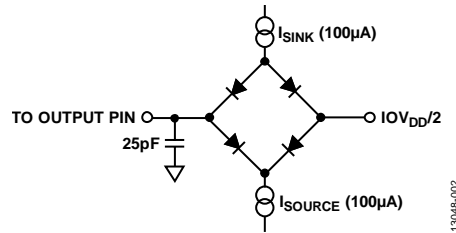

Figure 2. Load Circuit for Timing Characterization
- ⁴ These specifications are measured with the load circuit shown in Figure 2 and defined as the time required for the output to cross the V_{OL} or V_{OH} limits.
- ⁶ These specifications are derived from the measured time taken by the data output to change by 0.5 V when loaded with the circuit shown in Figure 2. The measured number is then extrapolated back to remove the effects of charging or discharging the 25 pF capacitor. The times quoted in the timing characteristics are the true bus relinquish times of the device and, therefore, are independent of external bus loading capacitances.